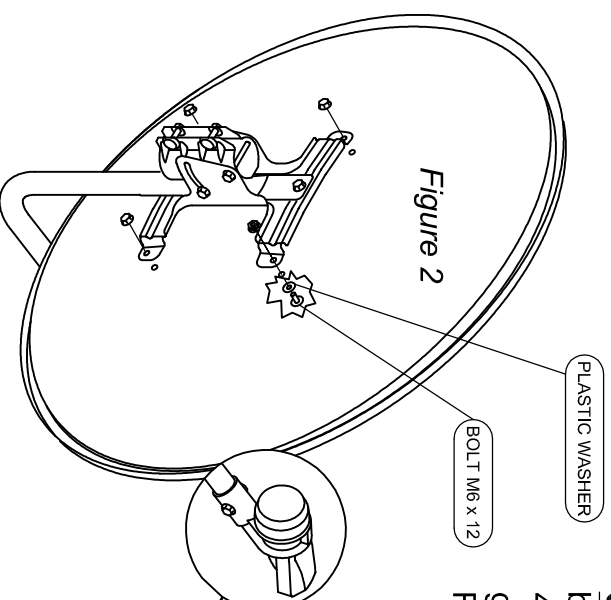

Figure 2
STEP 2 - Assemble the dish face to the back bracket assembly using 4 M6 x 12 screws plus 4 x M6 flange nuts. Ensure 4 plastic washers go underneath the head of the screw. Refer Figure 2